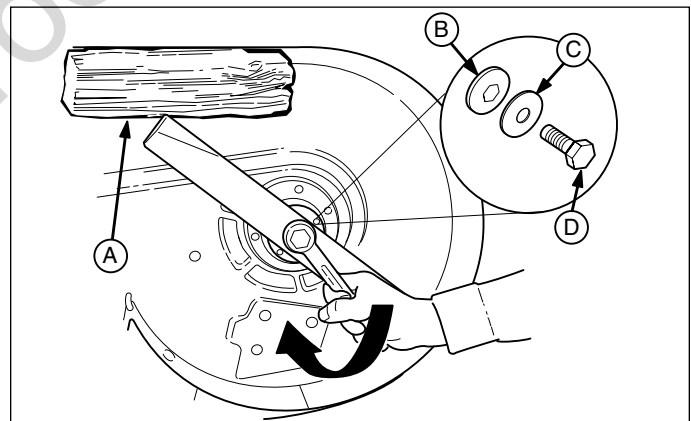

Figure 29. Blade Installation - 44" & 50" Mowers
3. **44" & 50" Mowers:** Remove the capscrew (D, Figure 29), spring washer (C), hex washer (B), and blade.
7. **44" & 50" Mowers:** Reinstall the hex washer (B, Figure 29), spring washer (C) and capscrew (D). Use a wooden block (A) to prevent blade rotation while tightening the capscrew (D) to 61-75 Nm (45-55 ft-lbs).